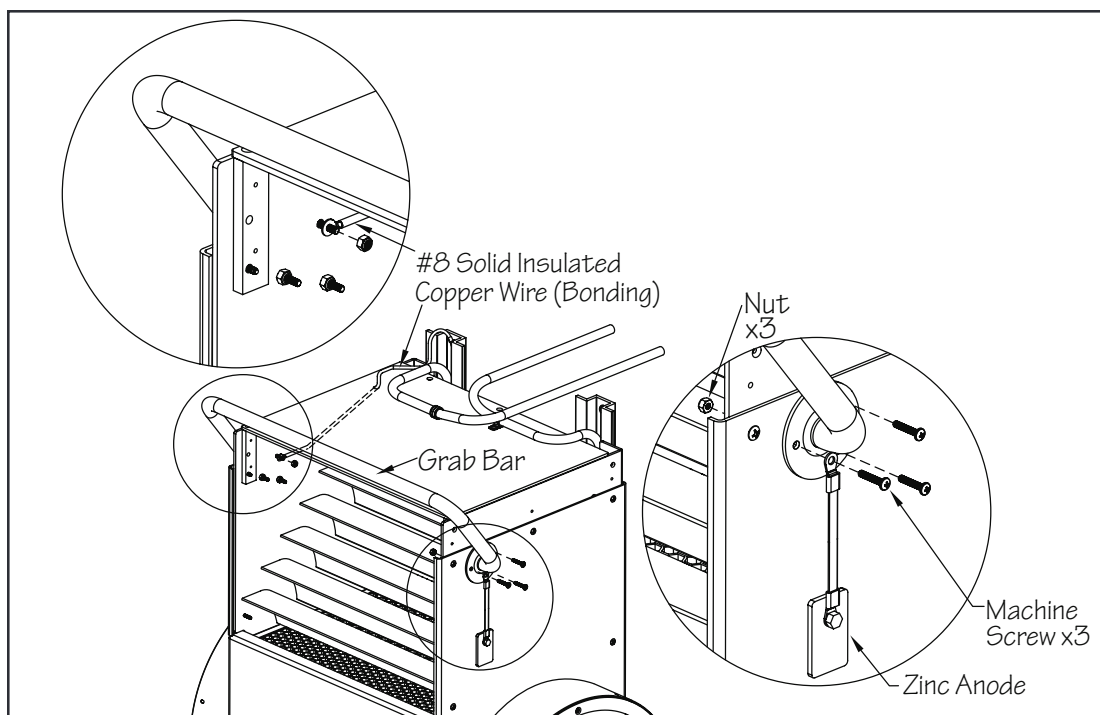

Fig. 6.2
**If the Fastlane Pro is being installed into a pool using a salt-chlorine generator, a sacrificial zinc anode MUST be installed to combat the corrosive nature of the salt. Secure anode to one of the grab bar screws on the right side of the unit. DO NOT INSTALL ANODE UNLESS NEEDED (Fig. 6.2).**